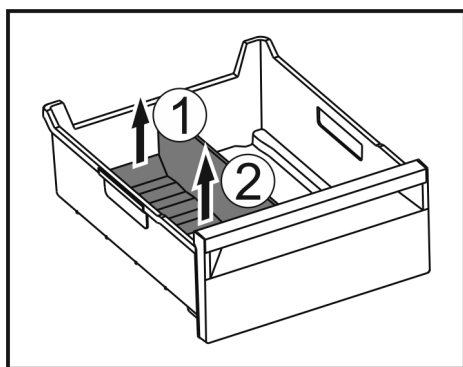

Fig. 184
- Lift the rear part of the ice compartment divider. Fig. 184 (1)
- Remove the ice compartment divider upwards. Fig. 184 (2)